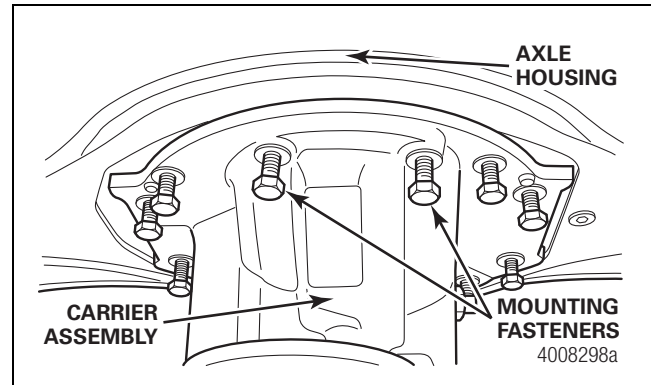

Figure 7.4
9. Carefully push the carrier into position. Tighten the four fasteners two or three turns each in a pattern opposite each other. Figure 7.4.